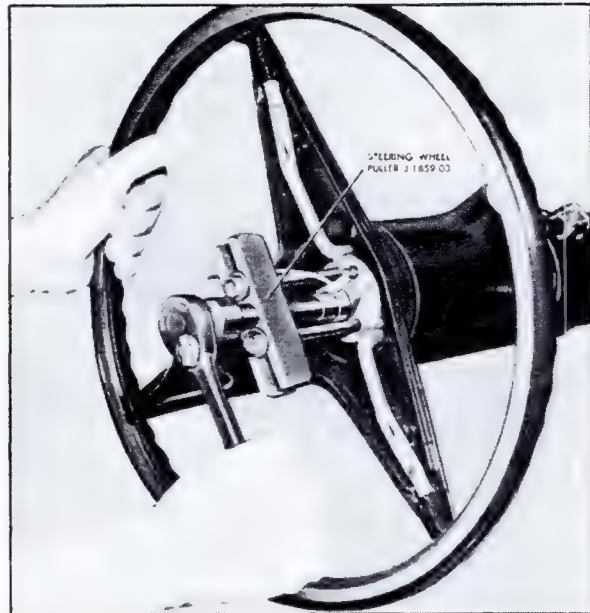

Fig. 9-41 Steering Wheel Removal
10. Tighten center bolt until steering wheel is loose on shaft, Fig. 9-41.